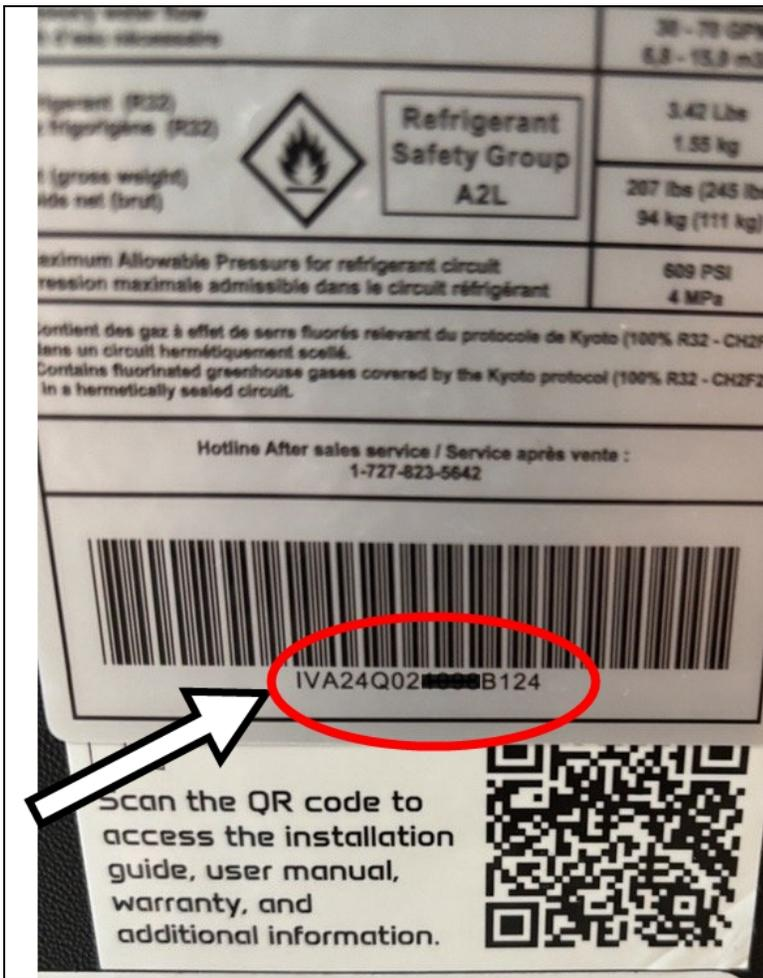

Figure 10
6. Enter the heat pump's serial number found on a sticker on the heat pump. See Figure 10.